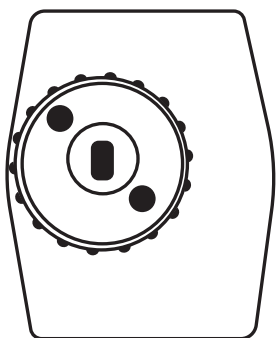
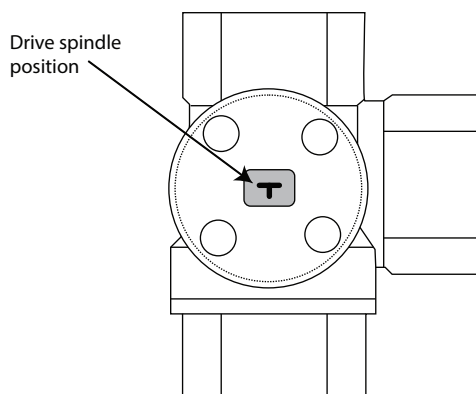
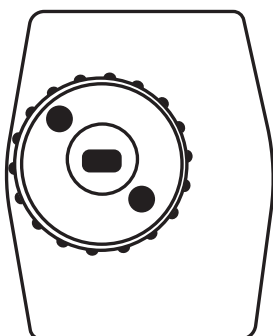
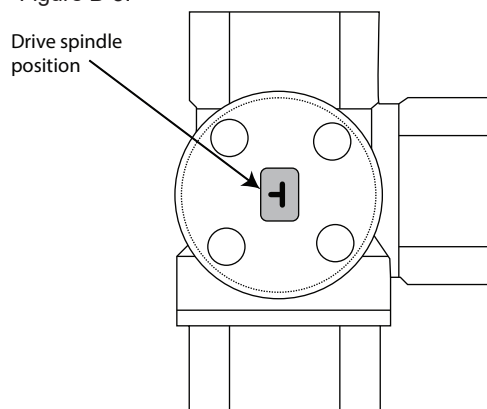

Figure B-2: Actuator spindle slot position - DHW
Figure B-3: Option 1 - Drive spindle position
Figure B-4: Actuator spindle slot position - Heating
Figure B-5: Option 2 - Drive spindle position
Refer to Figure B-3 and Figure B-5 for the installation options based on valve orientation. These show the position of the drive spindle indicator required to ensure the valve is set to function correctly once the actuator is mounted.
- For **OPTION 1** – If the actuator spindle slot is correct in Figure B-2, set the 'T' on the end of the valve drive spindle to point as shown in Figure B-3.
- If the actuator is in the position shown in Figure G-4, rotate the valve drive spindle 90° clockwise from the position shown in Figure B-3.
- For **OPTION 2** – If the actuator spindle slot position is correct as shown in Figure B-2, set the 'T' on the end of the valve drive spindle to point as shown in Figure B-5.
- If the actuator is in the position shown in Figure B-4, rotate the drive spindle 90° clockwise from the position shown in Figure B-5.
The valve should be wired to the Grant AERONA Smart controller as shown in Figure B-4.